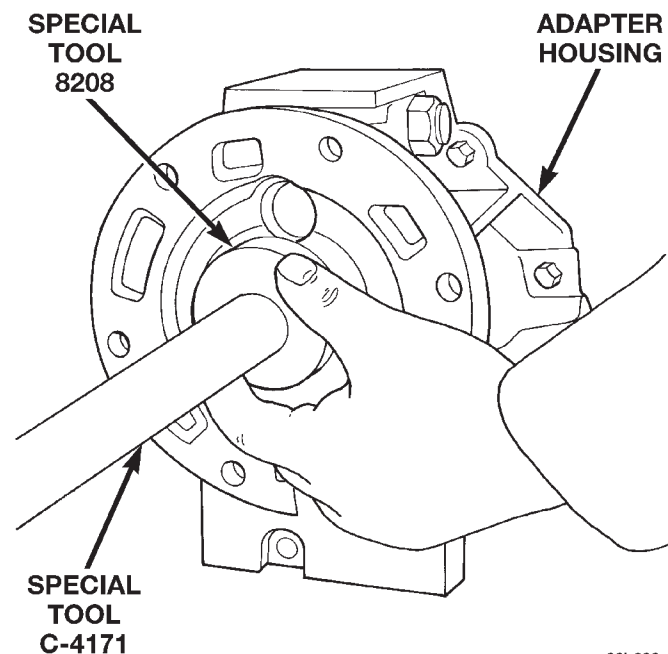

Fig. 15 Install Adapter Housing Seal
- (1) Clean seal bore of adapter housing of any residual sealer material from original seal.
- (2) Using Tool Handle C-4171 and Seal Installer 8208, install new seal so that the seal is located 0 ± 0.2 mm (0 ± 0.008 in.) to the seal bore face of adapter housing (Fig. 15).